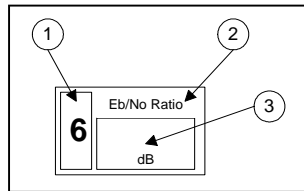

Figure 3-2: Direct Softkey Control 1
Functions that are more frequently accessed such as Set Ratio and Set Center Frequency are assigned to Direct Softkey Controls. Figure 3-2 depicts the first type of Direct Softkey Control denoted by these three (3) features: